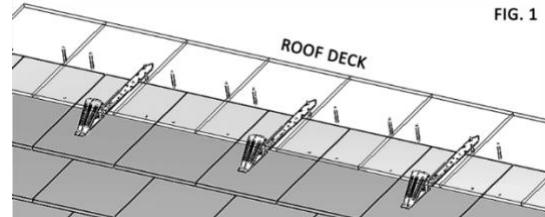

FIG. 1
1. Install the first 2-3 rows of roofing material (3 rows for slate, tile or shingle. 2 rows for synthetic materials), and place the strap of the snow guard on the roof deck (fig. 1).